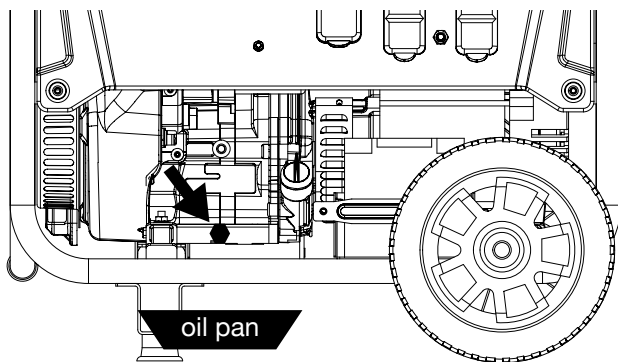

Figure 24 - Oil Drain Plug
3. Place oil pan (or suitable container) under the oil drain plug (see Figure 24).
5. Remove the oil drain plug (see Figure 24). Once removed, place the oil drain plug on a clean surface.